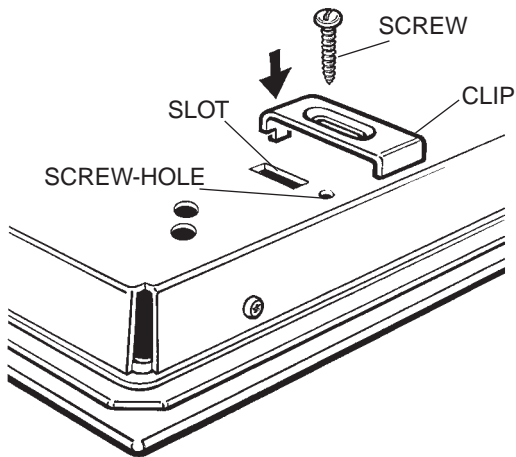
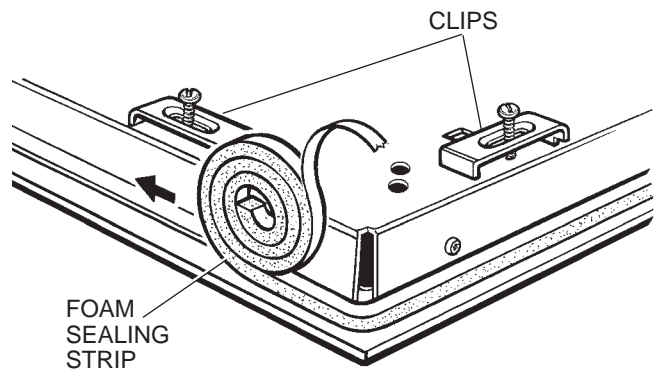

Figure 10 - preparing the clips
Figure 11 - applying sealing strip
2. Fit the clips onto the hob by sliding the notched end into the slot and loosely screwing the screw into the screw-hole (Figure 10). Turn the clips round so that they are in line with the hob (Figure 11).
4. Stick the foam sealing strip around the underside of the hob, 5mm in from the edge, removing the adhesive backing as you go (Figure 11). When the sealant has been stuck round all four sides and meets up with itself, trim off any excess sealing strip, leaving a neat join.
The size of the flame should only be regulated within the range between  and  (Figure 10).